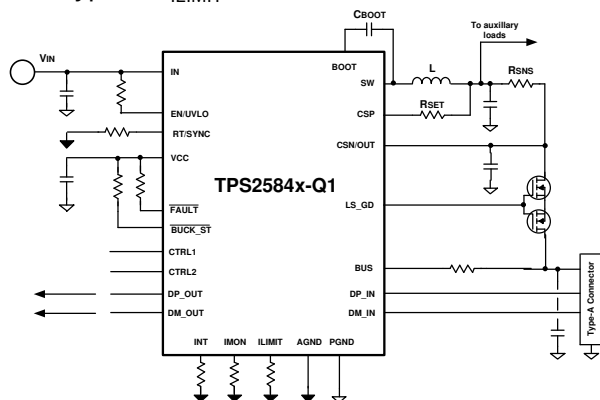

Figure 43. Current Limit with External MOSFET
- With external MOSFET Figure 43:
The TPS2584x-Q1 has integrated NFET gate drivers, and can support current limit with external NFET. Refer to Figure 43.